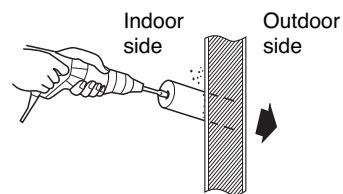

Fig. 3-85
- (8) If the tubing and wiring are to go towards the rear of the unit, make holes in the wall. (Fig. 3-85)